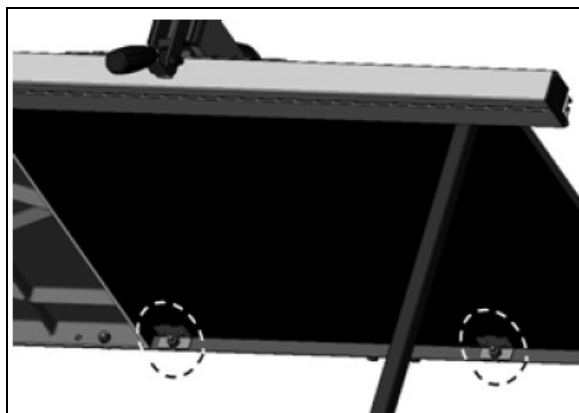

Figure 11
1.) You must place the right table assembly upright with the extension table and align the front rail mounting holes. After aligning the holes then fasten the table to the front rail using 2 M8 hex bolts, 8mm flat washers, and M8 hex nuts. Now fasten the table to the rear rail using the supplied cap screws, lock washers, 8mm flat washers, and M8 hex nuts as seen below in figure 11.